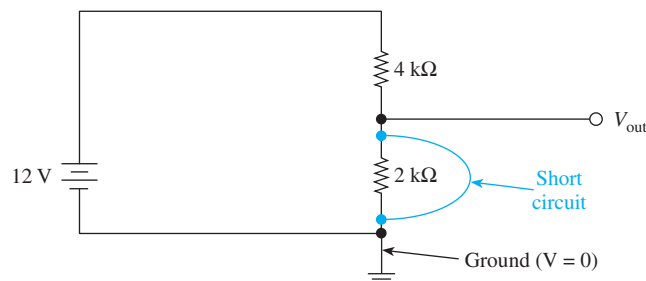

Figure F-5 A short circuit across the $2 \text{ k}\Omega$ resistor forces the output to zero V.
A *short circuit* occurs when an electrical conductor is purposely or inadvertently placed across a circuit component. The short causes the current to bypass the shorted component. Calculate V_{out} in Figure F-5.
- F-7.** The current leaving the battery in Figure F-5 _____ (increases, decreases) if the short circuit is removed.